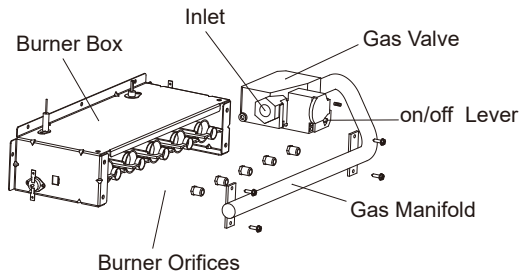

Fig. 8-1 Gas Manifold Exploded View
See Fig. 8-1.
1. Remove and save two screws holding J-Box. (See Fig. 8-1.)